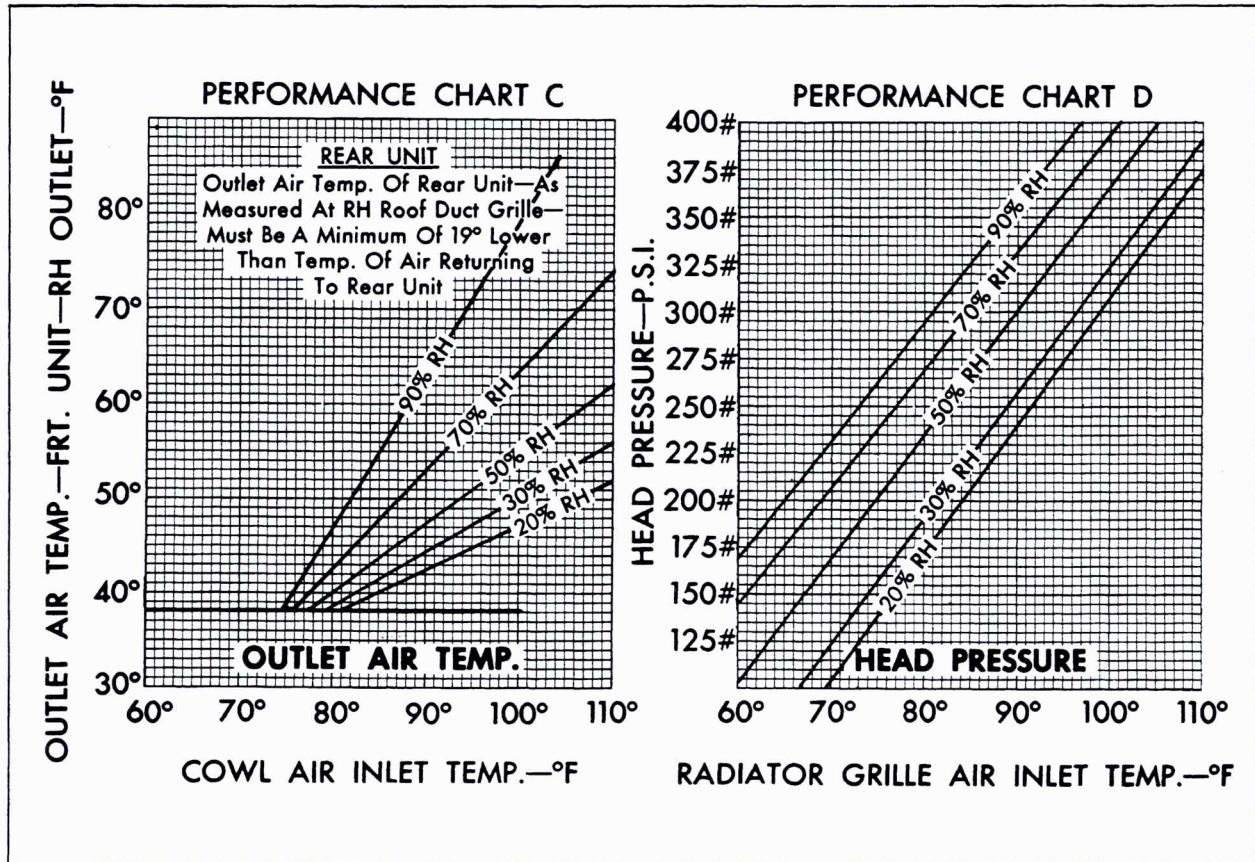

Fig. 1-89 Air Conditioner Performance Chart - 697 Series
20. Refer to Chart C, Fig. 1-89, to determine if outlet air temperatures are normal. If outlet
21. Refer to Chart D, Fig. 1-89, to determine if head pressure is normal. If head pressure is within 30 pounds below reading on chart, operation is normal.